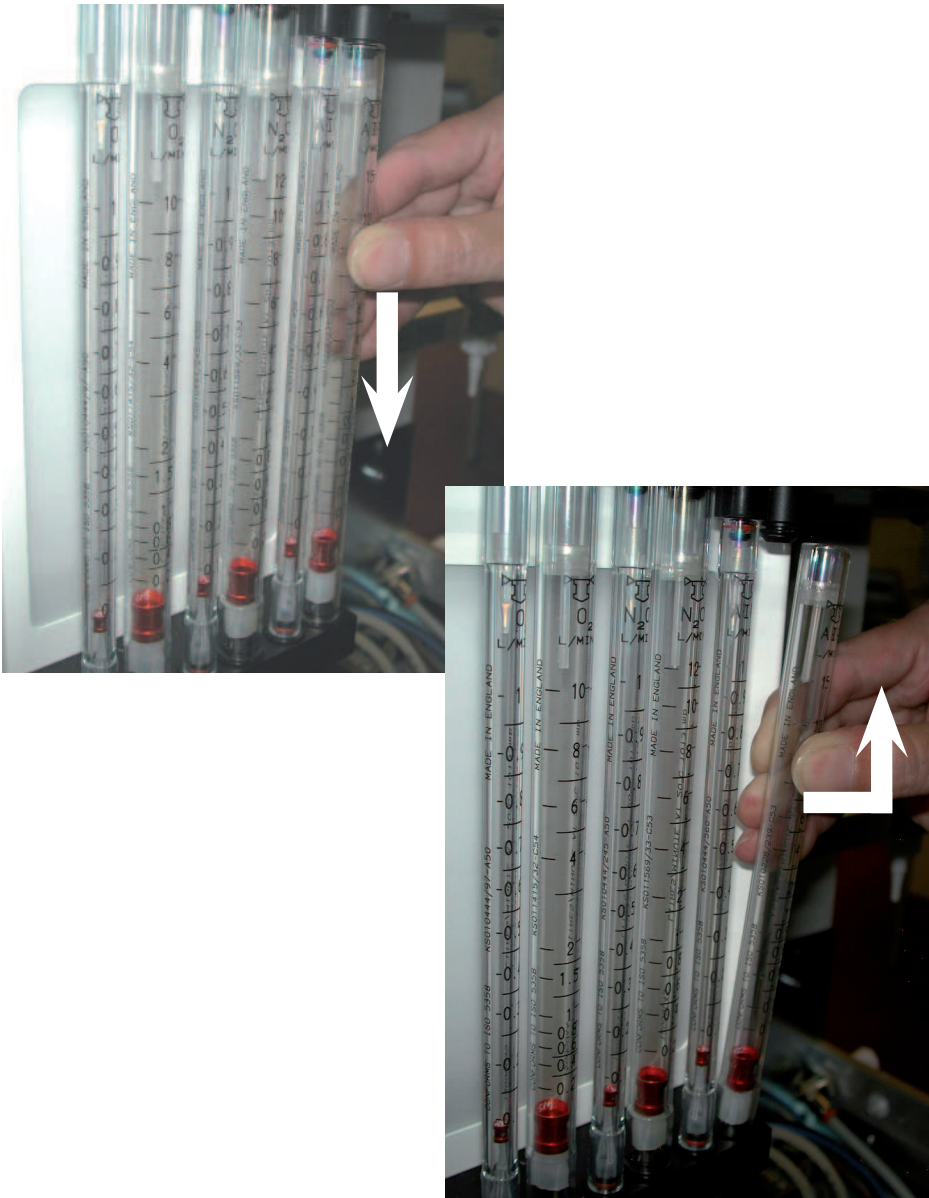

Figure 56 - Flow Tube Removal
2. Remove the flow tubes (Figure 56).